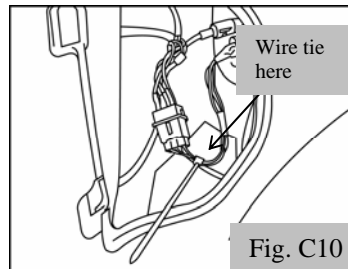

Fig. C10
9. Wire tie the vehicle connector to the vehicle wire harness as shown. (Fig C10)